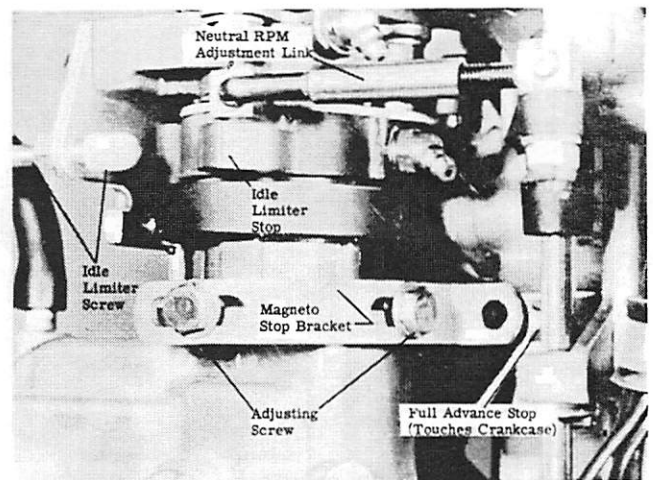

Figure 3. Magneto Stop Bracket Adjustment
12. Adjust and lock magneto stop bracket to contact crankcase at this point. (Figure 3)